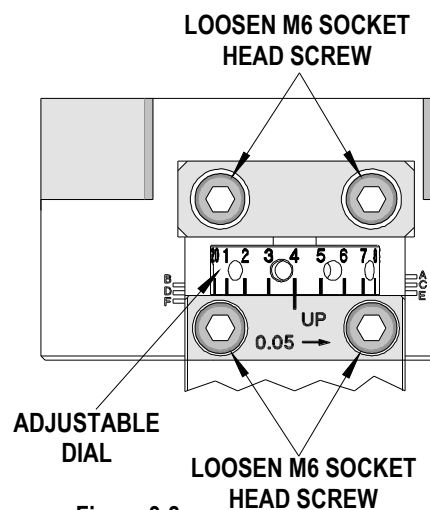

Figure 3-8
3. Rotate the adjustment dial to the right to raise crimp height or to the left to decrease. Dial indicator lines represent increments of .05mm (.002"). See Figure 3-8.